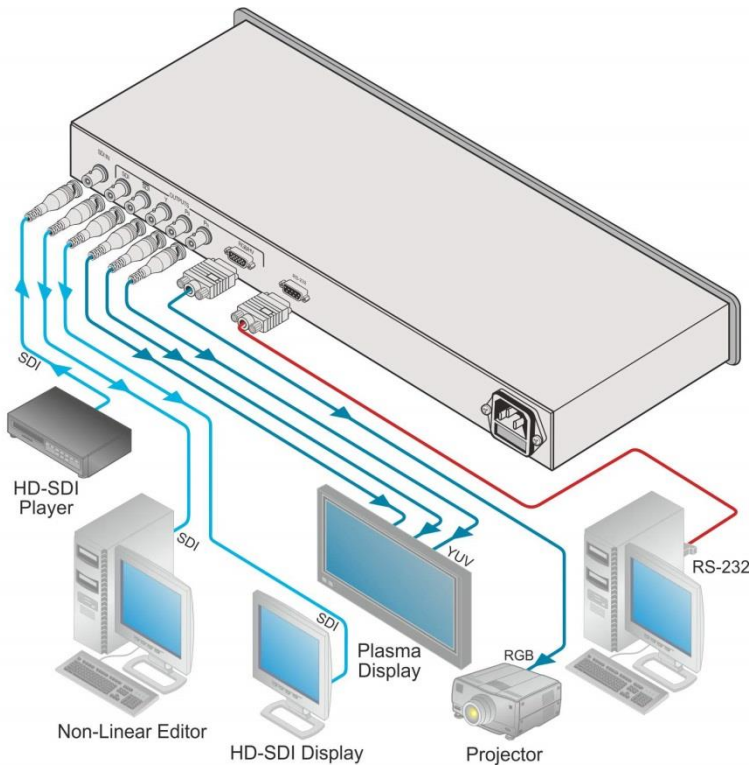

Figure 3: Connecting the FC-41 HD-SDI to Component Converter
To connect the **FC-41**, as illustrated in the example in Figure 3, do the following:
4. Connect the power cord (not shown in Figure 3).